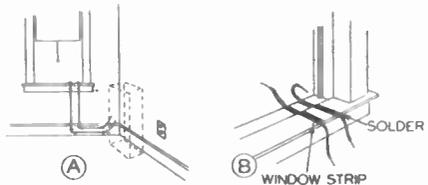

FIG. 8. Interior connections.
**Connections Inside the House.** Use flexible rubber-covered wire of the same color as the interior of the house (to make the wire as inconspicuous as possible) for connecting the two inside ends of the window lead-in strip to the antenna and ground terminals of the receiver. Generally it will be best to tack the wire around the base board with insulated staples, as in Fig. 8. Keep the antenna and ground leads at least 3 in. apart. A neater installation can be secured by cutting off the Fahenstock clips from the lead-in strips and soldering the wires directly to the strips themselves, as indicated in Fig. 8B.